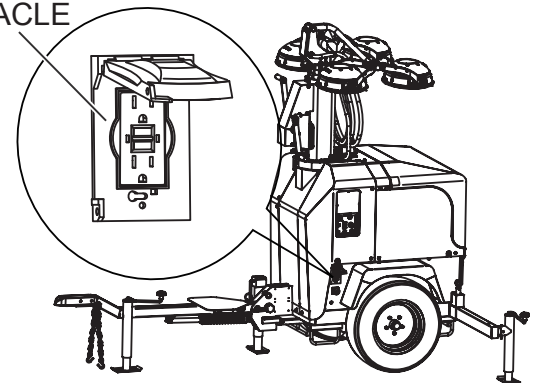

Figure 18. External Load Receptacle
1. The light tower is equipped with a dual 120 VAC GFCI auxiliary output receptacle (Figure 18). External load can be connected to this receptacle.